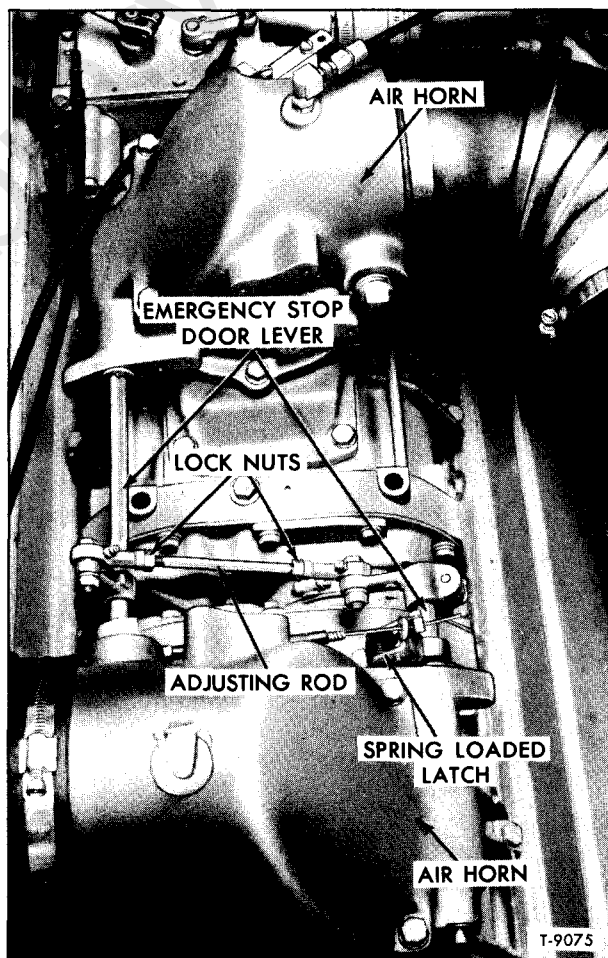

Figure 6—12V-71 Emergency Stop Linkage
**V12-71 EMERGENCY STOP LINKAGE ADJUSTMENT (FIG. 6)**
1. When emergency stop linkage requires adjustment remove air cleaner hoses from both air horns (fig. 6).